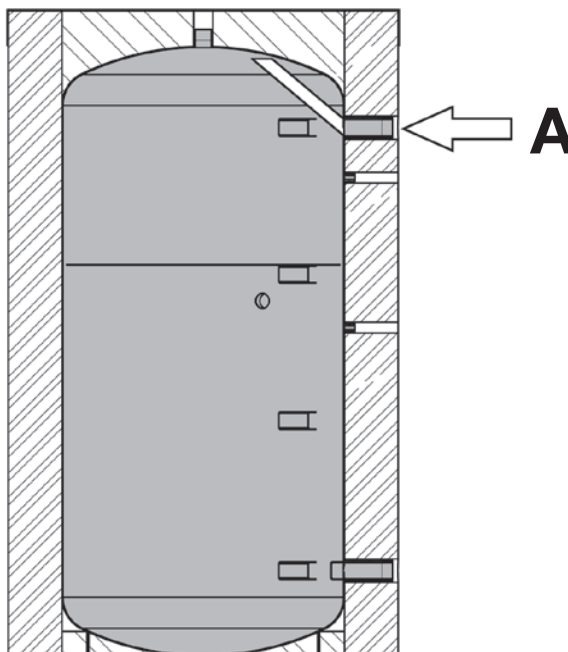

Fig. 4.7: Position for the connection of the “storage cylinder circuit - supply” pipe of the fresh water station to the buffer storage cylinder
When operating the fresh water station in combination with Oventrop buffer storage cylinders “Hydrocor HP”, please make sure that the **supply pipe “storage cylinder circuit - supply” (A)** is connected to the **central connection pipe** (Fig. 4.7).